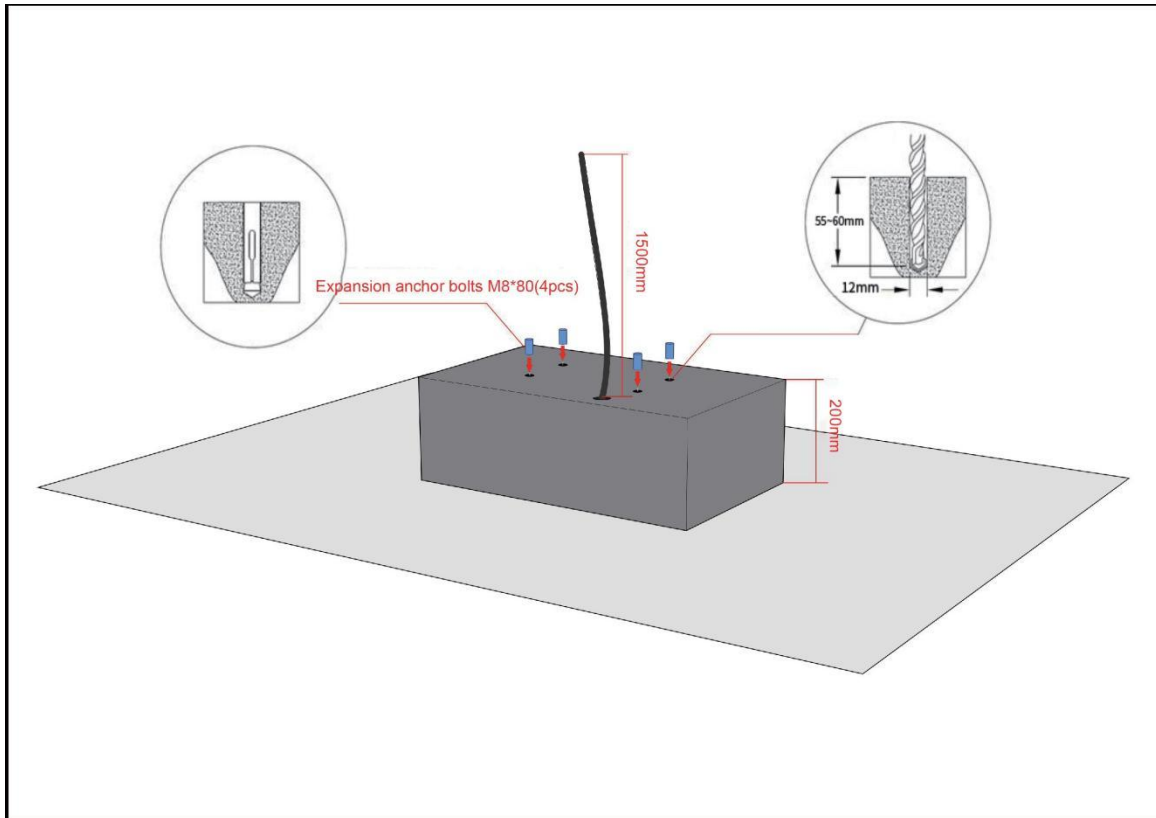

Figure 4.2.2-1 Embedded expansion anchor
Step 2: Use the percussion drill to drill four holes on the ground, and install 4 GB/T 22795-2008 reinforced expansion anchors (TGQ) M8*80 for preparation as shown in figure 4.2.2-1.